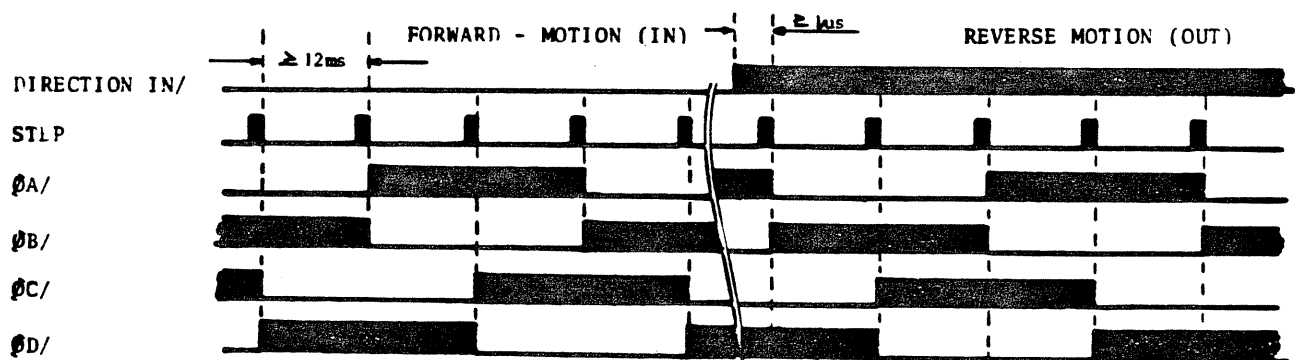

FIGURE 2 - 17 . STEPPER MOTOR - TIMING DIAGRAM
2.2.3. DRIVE MOTOR CONTROL (Fig.2 - 18)